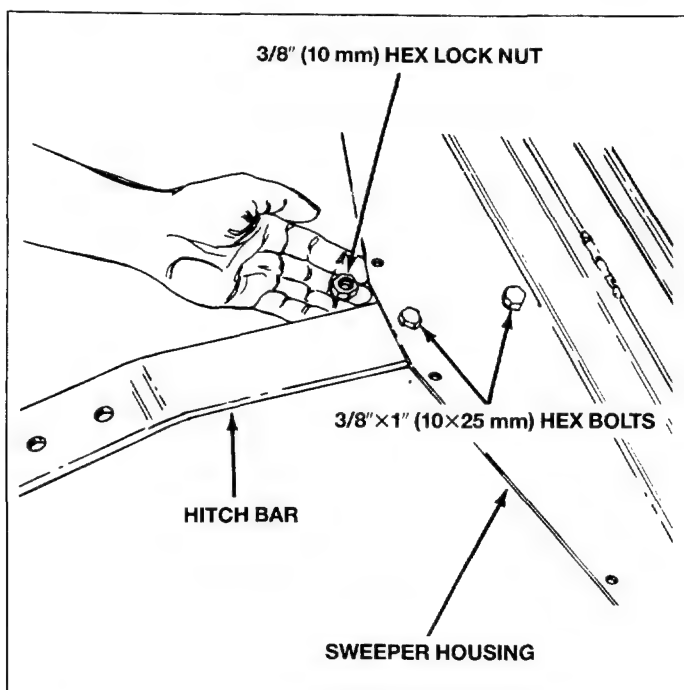

Fig. 3
1. Assemble the hitch bar to the sweeper housing; place hitch bar under sweeper housing as shown in figure 3.
2. Secure hitch bar with two 3/8"×1" (M10×25) hex bolts and 3/8" (10 mm) lock nuts. See figure 3. *Do not tighten at this time.*